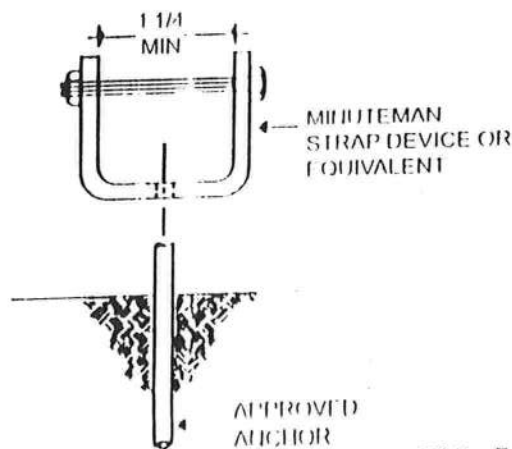

FIG. 5-10
2. Strap end connection devices (See Fig. 5-10).